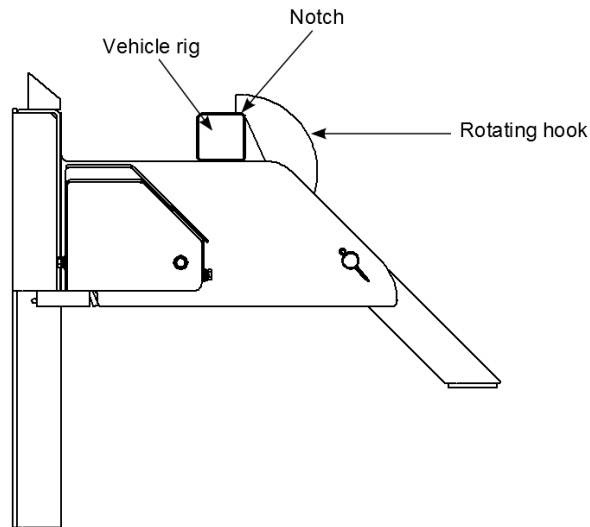

Figure 2: Properly secured
2. Inspect the truck restraint to ensure proper engagement. The notch on top of the hook must wrap over the vehicle's ICC bar. See **Figure 2**. If you secure the vehicle properly, the control box light will turn green and traffic light will turn red.